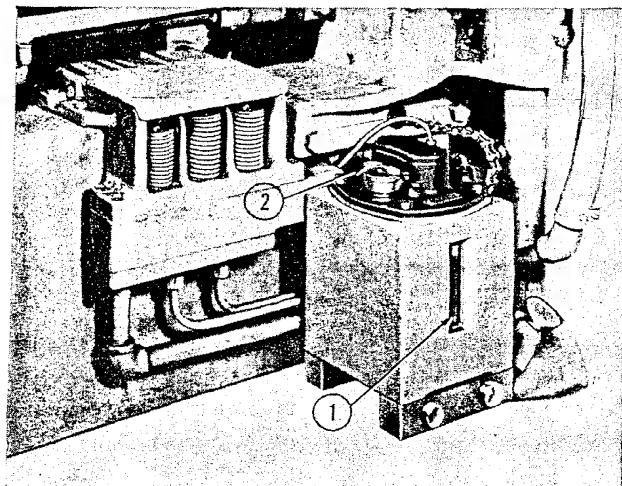

Figure 35—Lubrication Pump
a. AUTOMATIC LUBRICATION SYSTEM.—The automatic lubrication system used in the V-50 press consists of a pump unit (see Figure 35), chain driven from press main cam shaft, which forces oil through a branched tubing line to drip plug meter units, one of which is located at or near each bearing. The pump automatically feeds and measures the total quantity of oil fed to the system at each interval of approximately 1800 press impressions. The self-contained non-adjustable meter units proportion the quantity of oil fed according to the individual requirements of the bearings.
(1) OIL TO BE USED.—Use only a clean, clear mineral oil possessing persistence of film and body equivalent to Saybolt Universal Viscosity of approximately 650 seconds at 100° F. Do not use "dripless" oils, or oils containing soap, graphite or other foreign substances. Always refill reservoir before oil level drops to bottom of gage (1).
(2) STARTING AND FEEDING.—Before operating a new press or one that has been inoperative for a considerable length of time be sure oil reservoir is full. An oil level gage (1) located on side of pump indicates level of oil in the reservoir. Start press and hold down "Instant-Feed Button" (2) until oil shows freely at bearings. After releasing button, lubricator automatically operates on its regular cycle whenever press is running. The oil pressure gage (mounted on left side of press frame) should indicate a pressure of at least 25 pounds at each pre-determined feeding interval (every 1800 impressions).